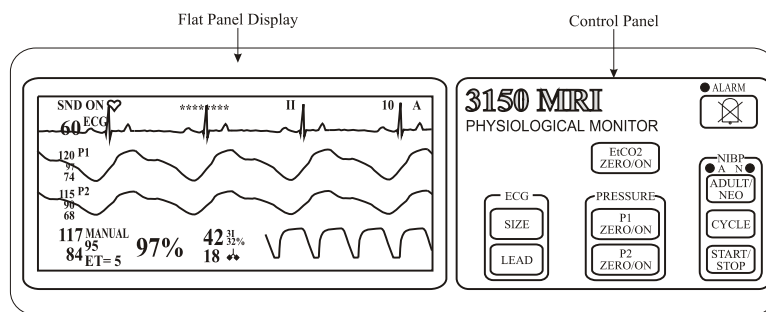

Figure 1-1. 3150(M) MRI Monitor Top Panel
1.4 Top Panel. (See **Figure 1-1**) The **3150(M) MRI Monitor** has limited control of the parameters which it monitors. Primary control is provided by the Remote Monitor. The Top Panel of the **3150(M) MRI Monitor** consists of a Flat Panel Display and a Control Panel. The Flat Panel Display provides clear and accurate waveforms of monitored parameters. The Control Panel has nine control keys to provide secondary control over some of the features of this monitor.